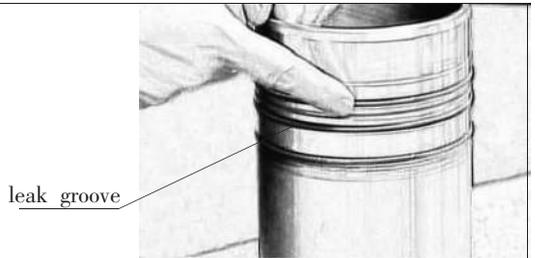

Fig 5-6 Leak Groove
1.6 There are four grooves around outside of wet block sleeves, among them, 1st, 2nd, 4th grooves are used for installing o-rings, 3rd one is leak groove, let this groove align with leak hole on cylinder block while installing sleeves (see Fig 5-6).